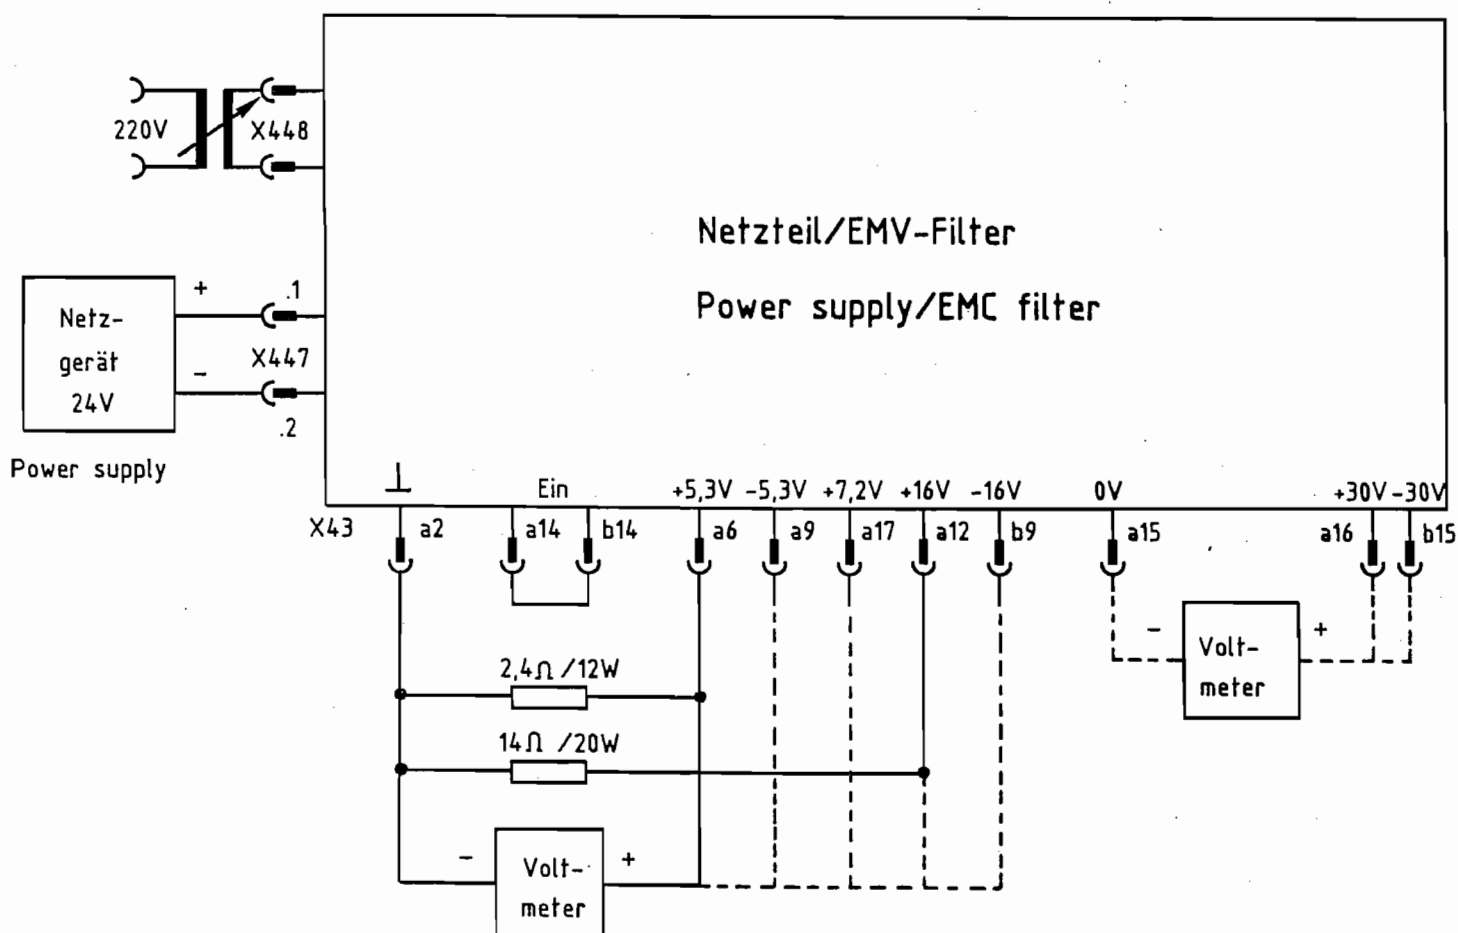

Fig. 6.1 Test Set-up for Power Supply/EMC Filter
1. Arrange test set-up acc. to Fig. 6.1.